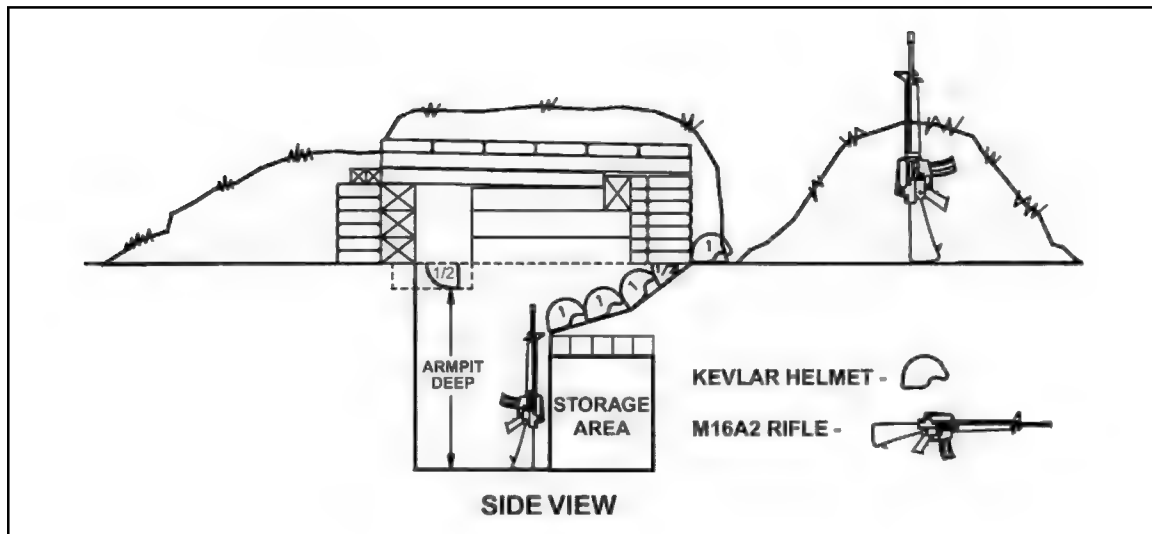

Figure 4-16. Side view of a Javelin defensive fighting position.
(2) *Side View*. Figure 4-16, page 4-16, shows the side view of the Javelin defensive fighting position.